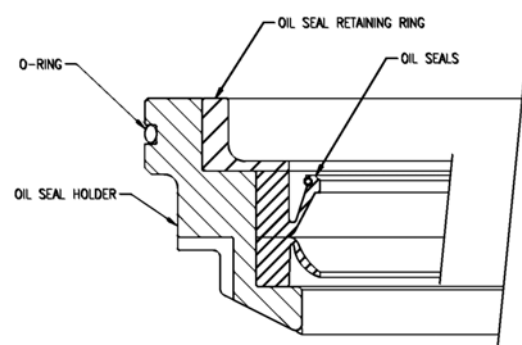

Fig. 6.4.4
6. Remove the old oil seal, clean the oil seal holder and retaining ring and place new oil seals in position. Check the condition of the "O" rings and replace with new if necessary. (Fig. 6.4.4)